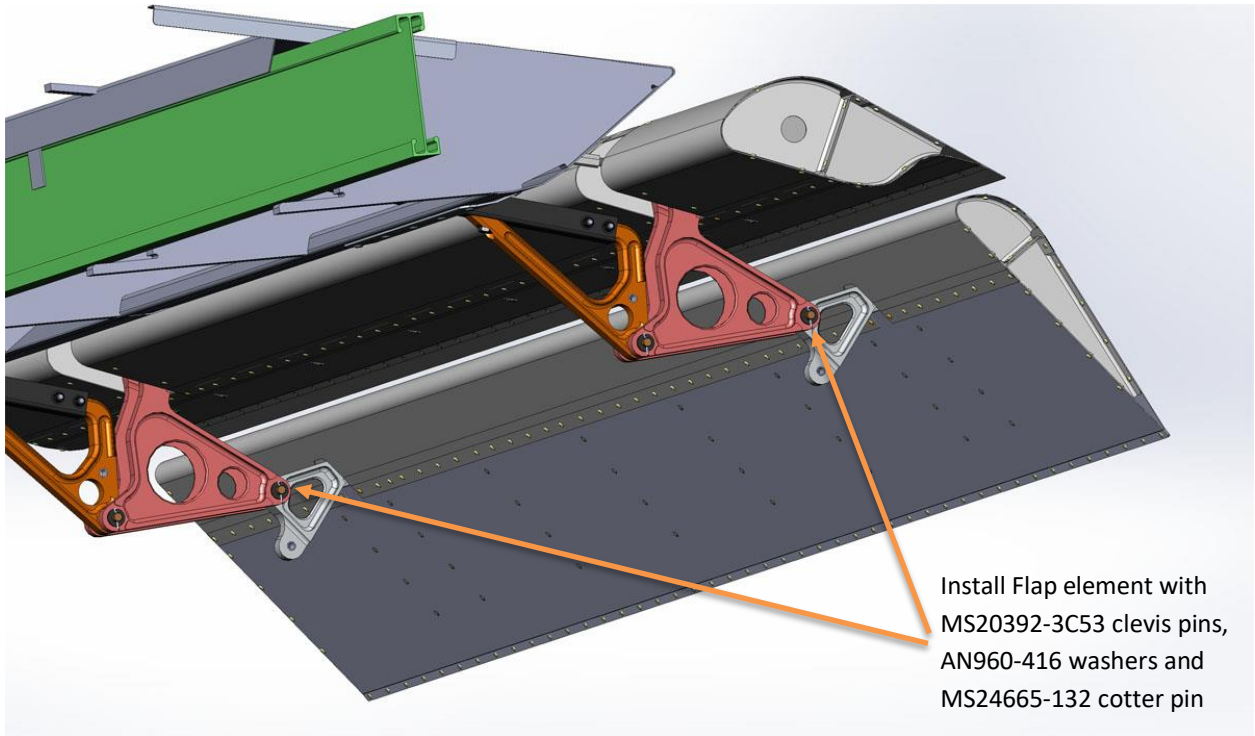

Figure 16: Flap Element installed
25. With the vane elements (PSTOL-0015) mounted and adjusted, mount the second element, the flap (PSTOL-0027), to the vane element as shown in Figure 16. Ensure that the left flap is mounted to the left wing, and right to the right. Each flap hinge is installed with an MS20392-3C53 clevis pin, two AN960-416 washers (one on each side of hinge), and an MS24665-132 cotter pin.